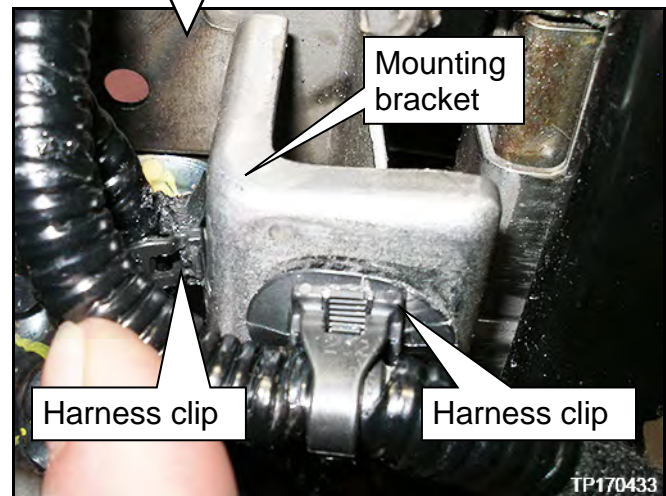

Figure 14
23. Cut the clips shown in Figure 14 to avoid bending the mounting bracket.